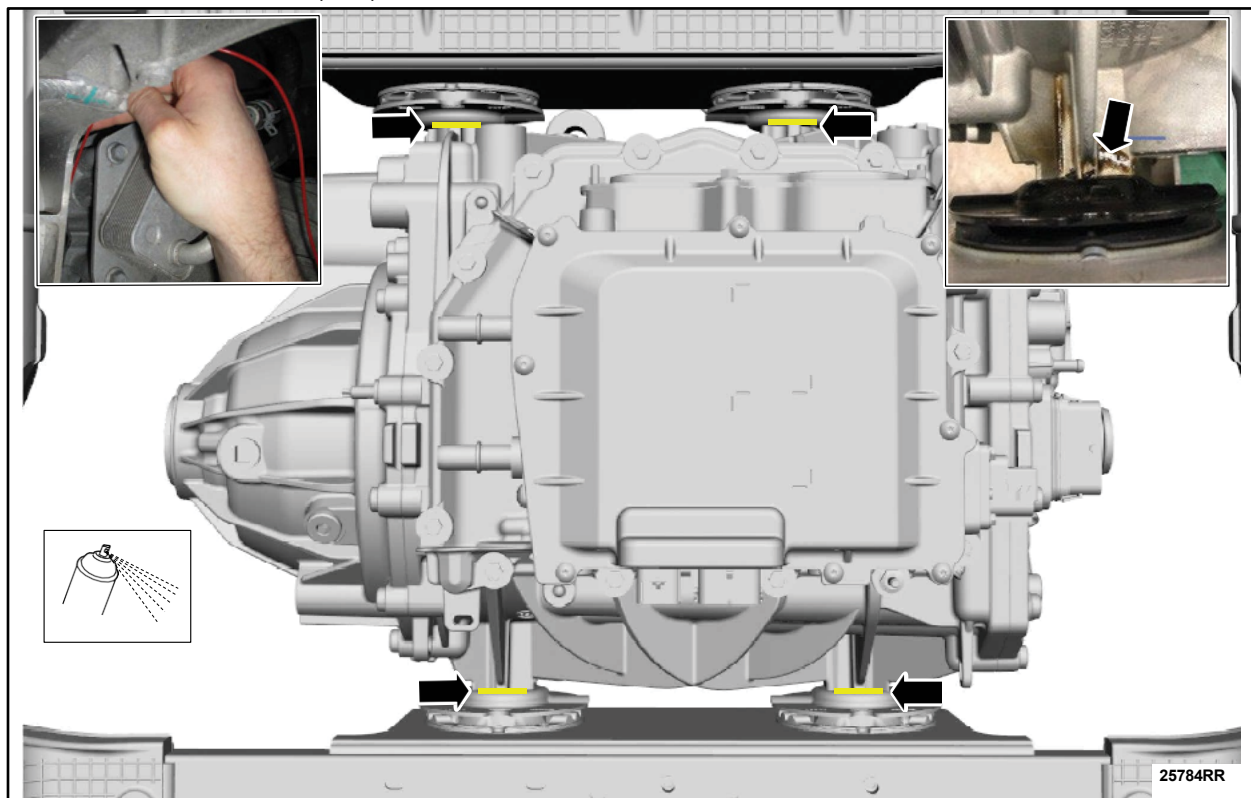

FIGURE 39
47. Using an approved corrosion protectant listed in the bulletin, seal the 4 (four), rear electric drive assembly, mounting surfaces between the rear electric drive assembly and the mounting plates. Read the bullet points below and See Figures 39, 40, 41, and 42.